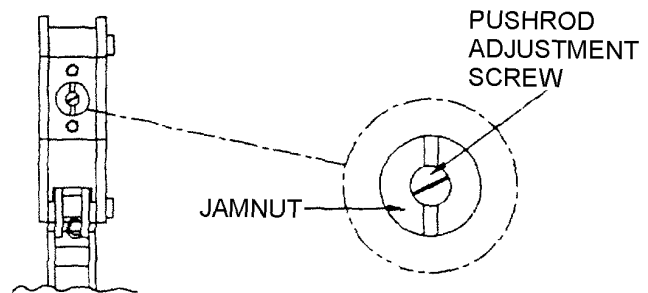

Figure 37. Adjustment of Safety Cable Indenter (Same for Hand and Pneumatic Tool Models)
64. **SCT32080 TOOL.** Unlock the jamnut using the SCT32084 tool (supplied by the manufacturer). Adjust the pushrod adjustment screw using a 1/4-inch straight edge screwdriver (Figure 37). Turn the screw clockwise to loosen the crimp (enlarge the gaging dimension), or counterclockwise to tighten the crimp (reduce the gaging dimension). After each adjustment, securely tighten the jam nut using the SCT32084 tool (while holding the adjustment screw tight with the screwdriver). Reinstall the tool nose being sure to tighten the 8-32 socket cap screws securely.